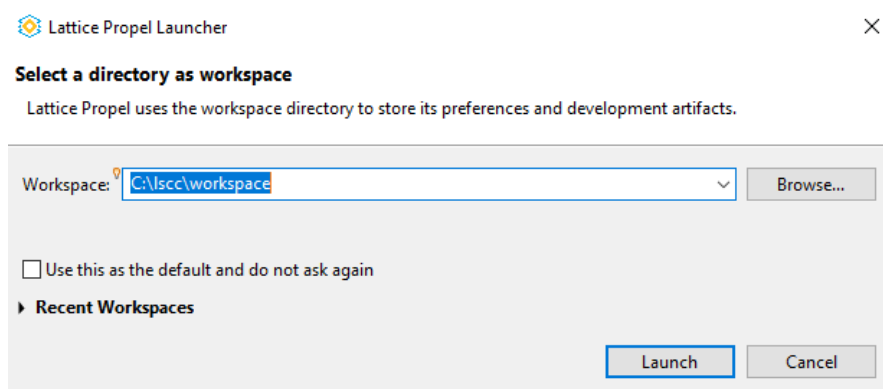

Figure 3.3. Lattice Propel Launcher
2. In Lattice Propel Launcher, select the workspace as shown in Figure 3.3, and then click **Launch**. The Load System and BSP dialog box appears.